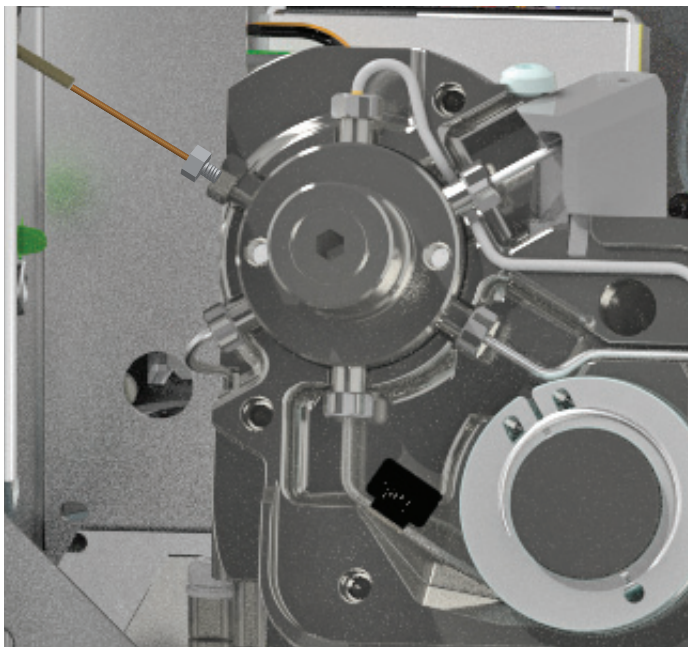

Figure 28. Transfer line installed into 6 port valve
- 14 Gently guide the fused silica into the reducer fitting (the 1/4-inch nut already in the 6 port valve) all the way in until it stops. Slide the polyimide ferrule and 3/16-inch nut into the 1/4-inch nut. Tighten the 3/16-inch nut finger-tight, then an additional 1/4-turn. See **Figure 28**.